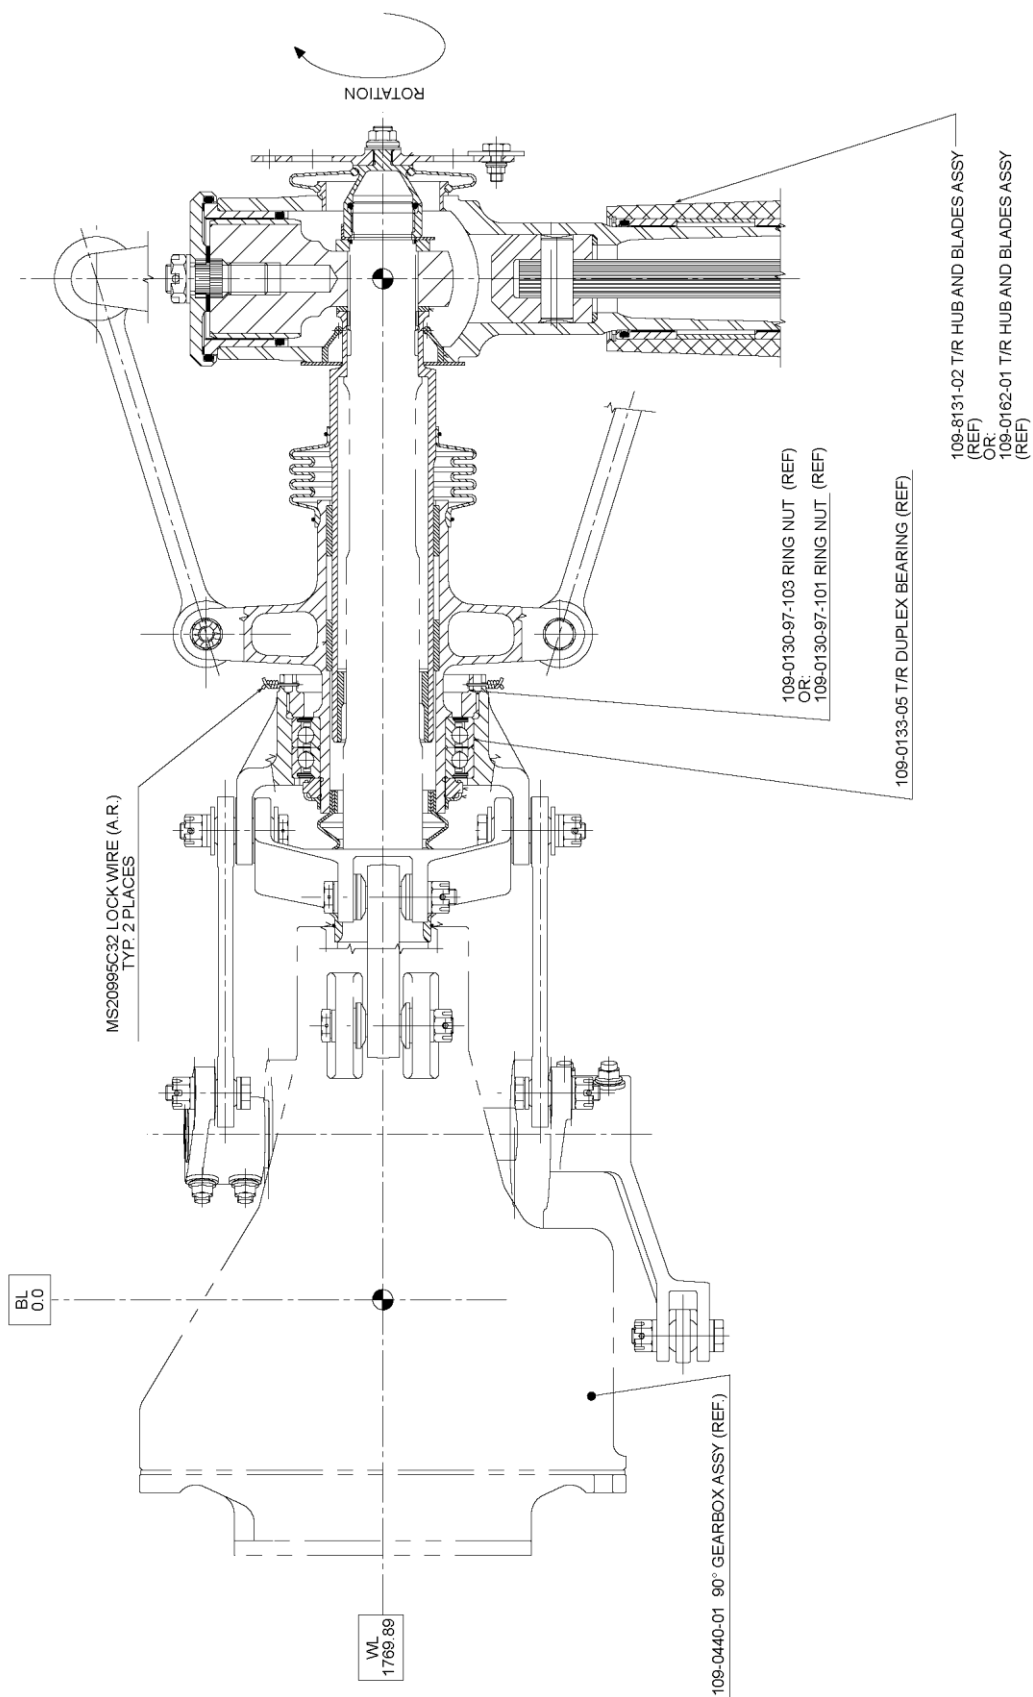

FIGURE 1
(See figure 1)
2. Gain access to the tail rotor rotating controls P/N 109-0133-01 and visually inspect the two MS20995C32 lockwires, securing the duplex bearing locking nut P/N 109-0130-97-101 or -103 to the housing, for presence and conditions (ref. figure 1).